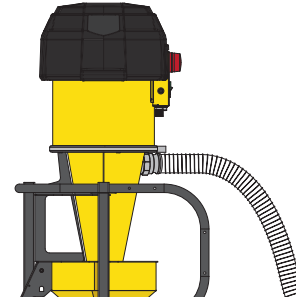
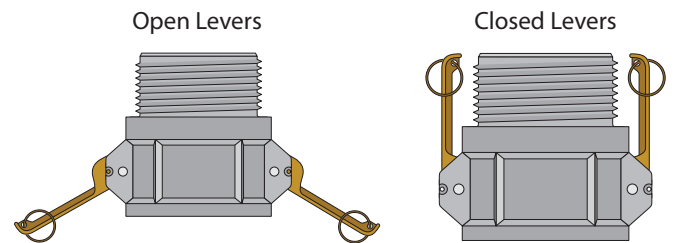

FIG. 13a
FIG. 13b
Connect the Cyclone's (G) inlet to the Cam and Groove Vacuum Hose (L) [FIG 13a]. Secure in place by pulling the levers closed [FIG 13b].